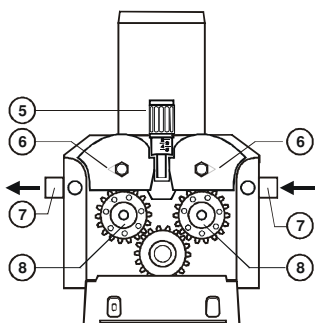
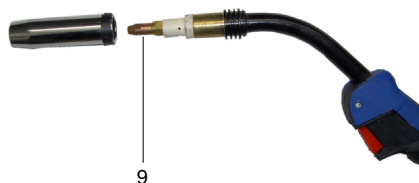

Fig. 7 - 4 roll wire feed motor
Fig.8 – Torch tip
- The wire feeder rolls (8-fig.7) and the tip of the torch (9-fig.8) must correspond to the wire diameter.
The wire must be manually conducted a few centimetres through the rolls (8-fig.7) and the wire guide (7-fig.7). After this, close the traction levers (6-fig.7) verifying that the correct positioning of the wire on the roll end.
- Switch on the machine and "wire inch" key button until the wire appears outside the torch tip (9-fig.8). If necessary, unscrew the tip torch and straight torch cable.